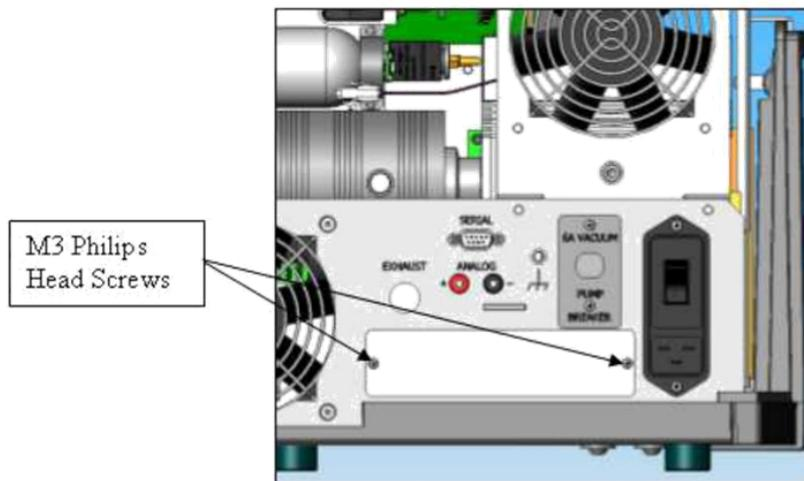

Figure 2: Back Plate with Screws
- Remove the two back plate Philips head screws w/lock washers (Figure 2: Back Plate with Screws) and pull the blank back plate off and discard.
- Reinstall the two back plate Philips head screws w/lock washers (Figure 2: Back Plate with Screws).